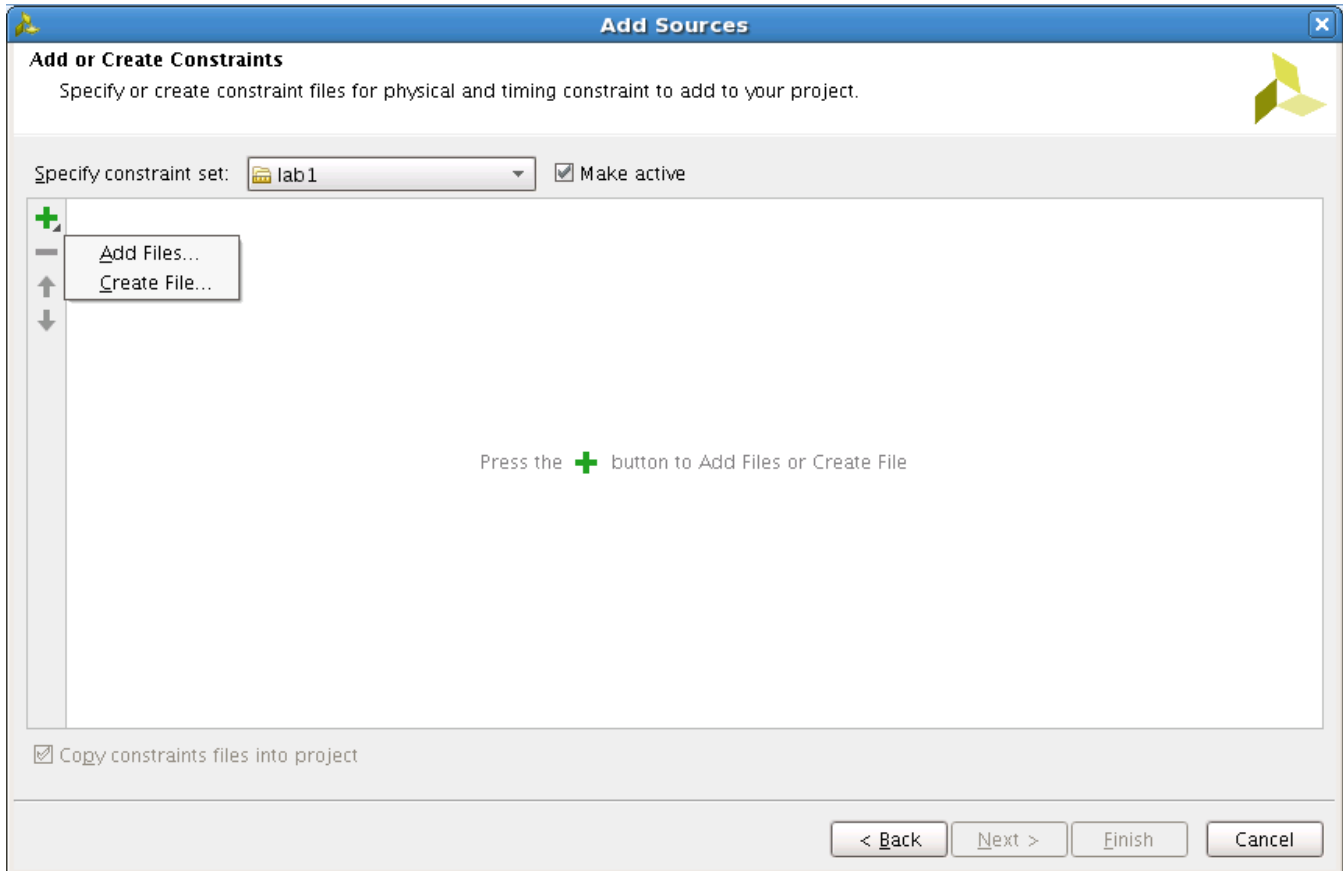

Figure 9: Adding a New File to the Project
- Click the + button and select **Create File** to add a new XDC file to the project as shown in Figure 9.